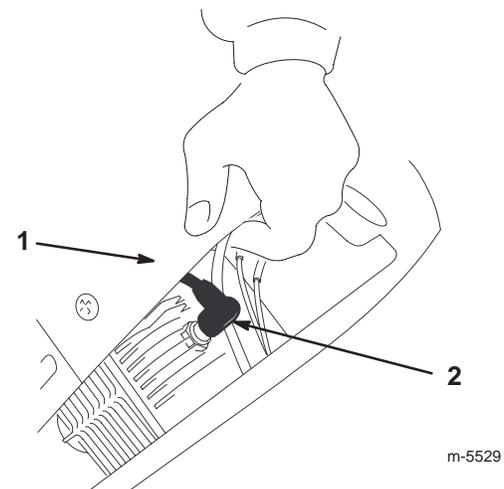

Figure 25
2. Mounting screws (3)
5. Lift up the shroud and disconnect the wire from the spark plug (Fig. 25).